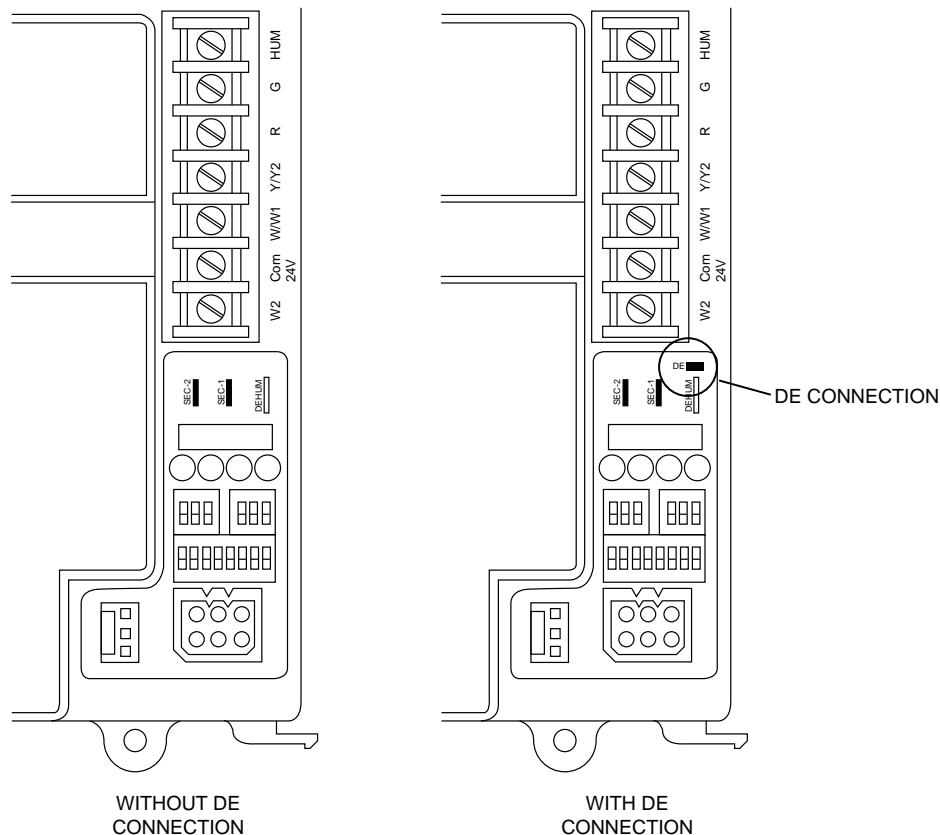
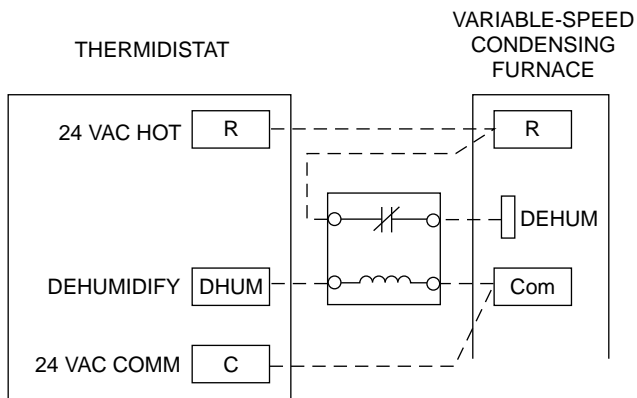
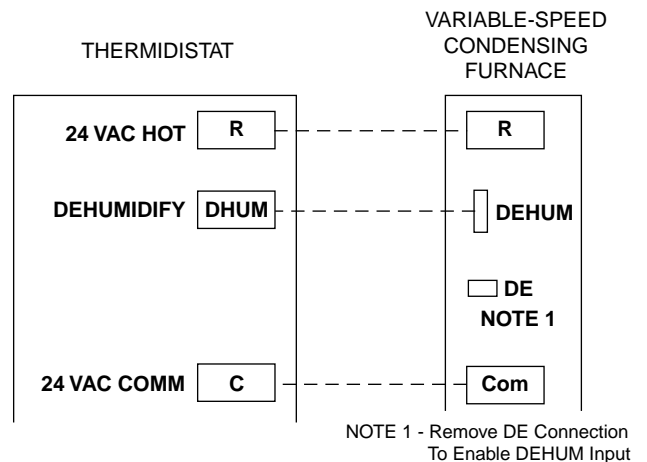

Fig. 1—Variable Speed Furnace Control
Fig. 2—Without DE Connection
Fig. 3—With DE Connection
NOTE: In cooling mode, the microprocessor adjusts blower RPM to operate at 400 CFM per ton as selected on the A/C setup switches. Airflow will be reduced to 340 or 315 CFM per ton, depending on board style (See Fig. 1), when a dehumidification demand exists. See Air Conditioning Setup Switches section in Installation, Start-Up and Operating Instructions for details. There is also a chart on schematic in Appendix A.
5. **Blower off delay**—When thermostat is satisfied, the R-Y/Y2 and R-G signals are terminated, and blower remains operating for 90 sec. On newer style control boards (See Fig. 1), the blower airflow will drop by 21 percent during the off-delay period when the DE jumper is connected. The DE jumper is only removed to enable the DEHUM input for use with a thermostat or humidistat for dehumidification purposes.
5. After component operation test is completed, 1 or more fault codes (11, 22, 41, or 42) will flash. See service label on back of main furnace door or Fig. 1 for explanation of fault codes.
A dehumidification input is provided via a 1/4-in. male quick-connect terminal labeled DEHUM, located next to the transformer secondary connections. The DEHUM input acts differently depending on which style of variable speed furnace control you have. The older style variable speed furnace control (shown in Fig. 1) **DOES NOT** have a DE connection while the newer style variable speed furnace control (shown in Fig. 1) has a DE connection. The newer style variable speed furnace control is expected to be available by mid 1998. Both of these variable speed furnace controls function the same except the DEHUM logic is reversed. This logic reversal has come about from historical use of a
On the older style variable speed furnace controls, a field supplied relay is required between the thermidistat or humidistat control and furnace. The relay coil is connected between DHUM output on the thermidistat control and COM terminal on the furnace control. Its normally closed contact is connected between R and DEHUM terminals on the furnace control. (See Fig. 1 and Fig. 2). When a dehumidify demand exists, relay is de-energized, and normally closed contacts supply 24-v to the furnace DEHUM terminal. As a result, the furnace control reduces the blower airflow by 15 percent to 340 CFM per ton during continuous fan or cooling operation.
On newer style variable speed furnace controls, a field supplied relay **IS NOT** required. The DEHUM output on the thermidistat control or the humidistat output is connected directly to the DEHUM terminal on the furnace control. In addition, the DE jumper located next to the DEHUM terminal must be removed to enable the DEHUM input. (See Fig. 1 and Fig. 3). When a dehumidify demand exists, the furnace control reduces the blower airflow by 21 percent to 315 CFM per ton during continuous fan or cooling operation.